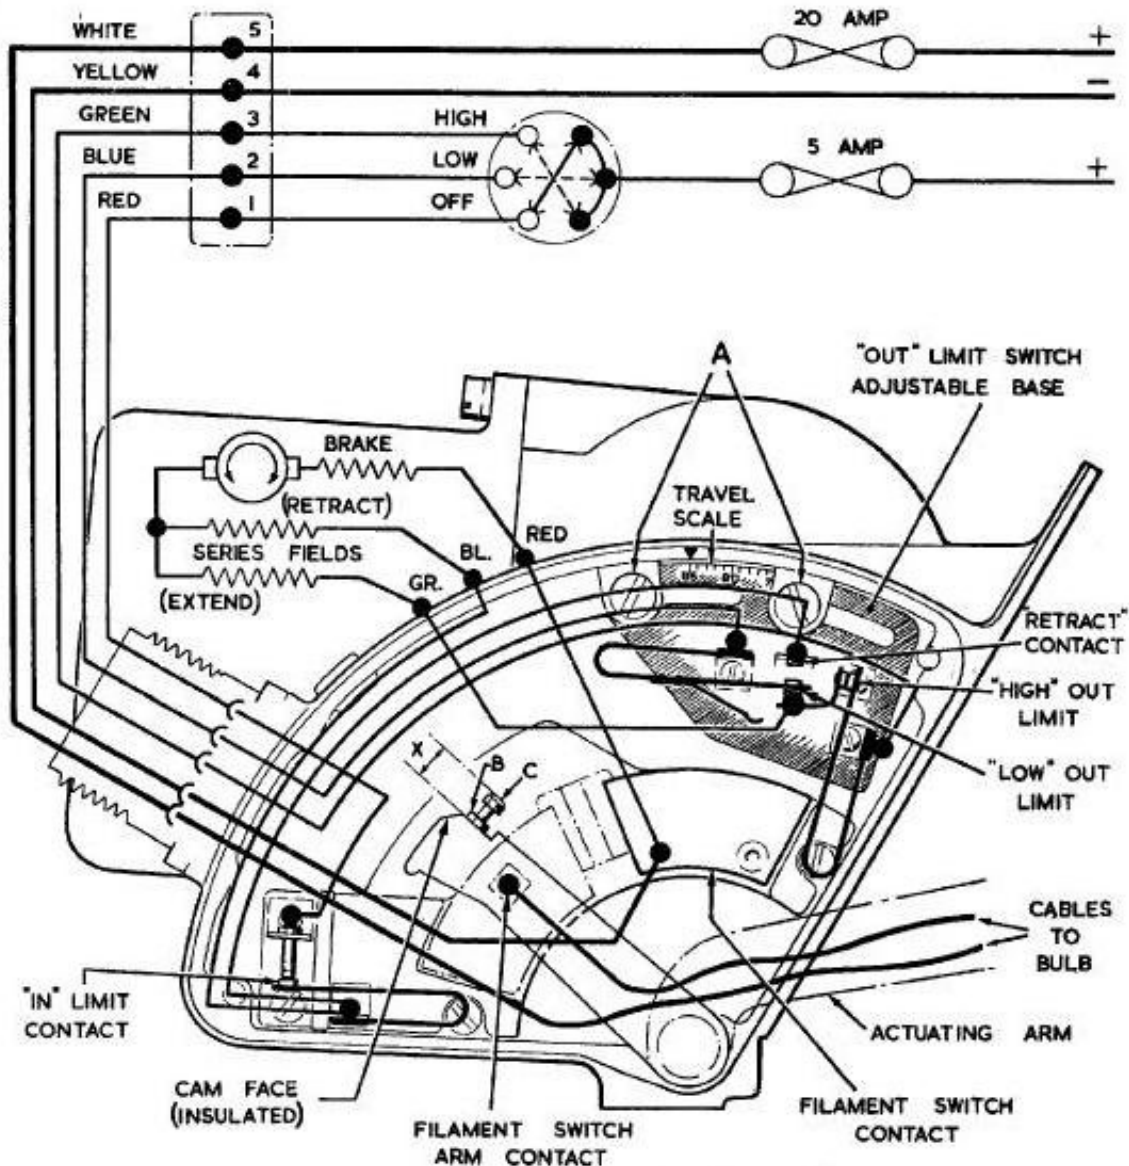

Fig. 2. Switchbox adjustments and circuit diagram
#### Switchbox (fig. 2)
8. Remove the cover of the switchbox and slacken the screws marked "A" in fig. 2. Slide the insulated base of the "out" limit switches to the new position and tighten the
#### Electrical connections (fig. 2)